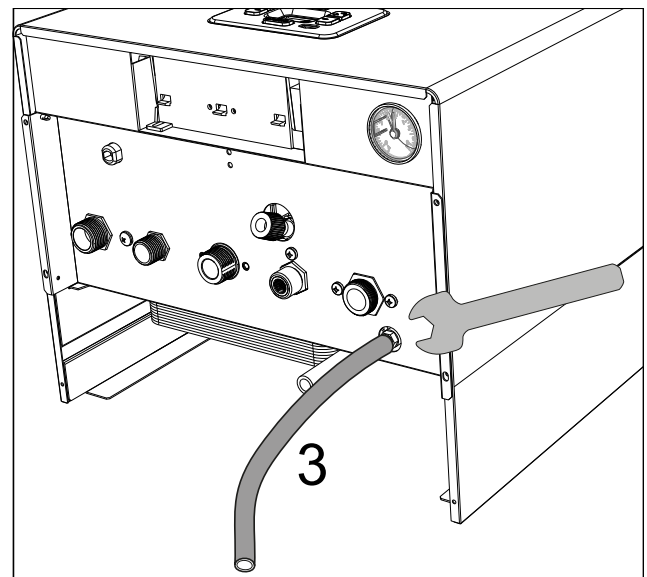

fig. 9- Safety valve with drain faucet
To drain the system, attach a rubber hose (ref. 3 - fig. 9) to the circulating pump drain valve connection. Using a hex wrench, open and empty the system.